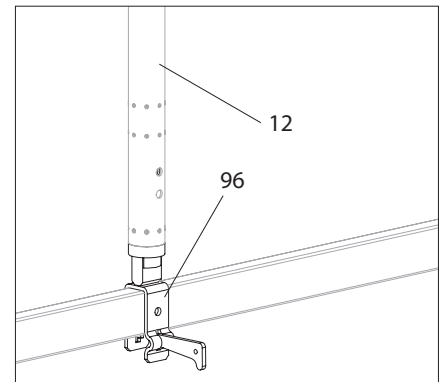

Fig. A11.09c
3. Fit standard (12) on UH Spigot (96). (Fig. A11.09c)